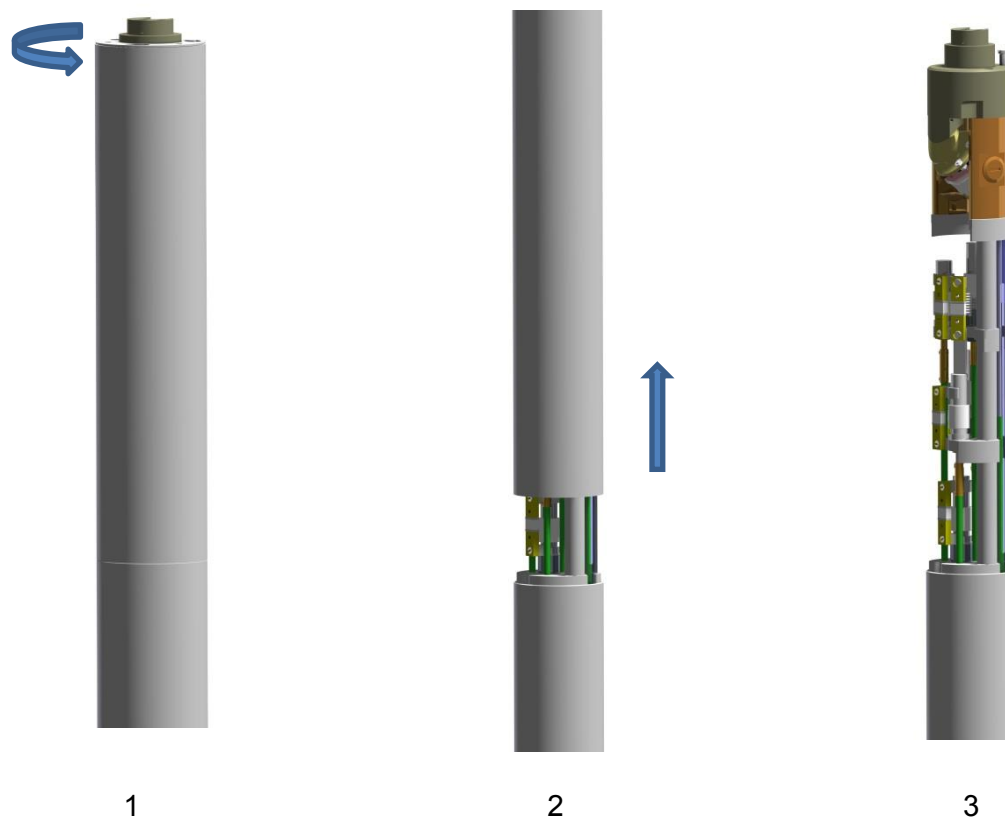

Figure: 5
1. Rotate the top part of the shield, from left to right to unlock the shield (Figure 5).